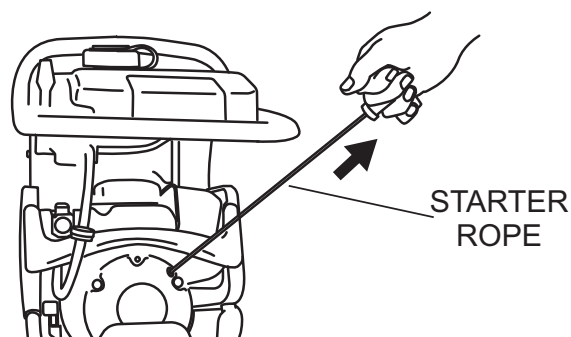

Figure 7. Recoil Starter
4. Grip the starter rope handle (Figure 7) and pull it until you feel a slight resistance. Then pull sharply and quickly. Return the handle to the starter case before releasing.